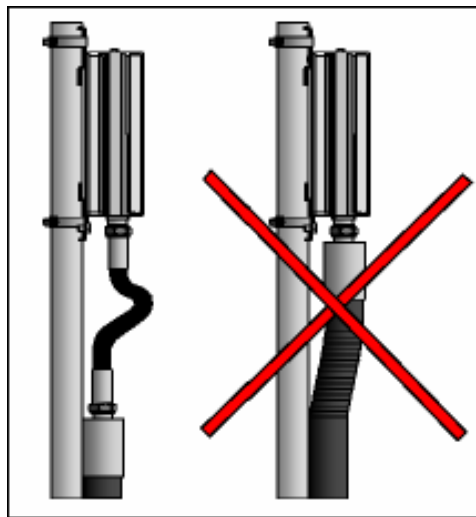

Figure 2-1 Use a jumper cable between feeder and TMA.
**NOTE** For simplicity, only a few TMA types are shown here, but the mounting principles can easily be applied to any of the other TMAs. If the feeder is of large diameter, its thermal dimensional changes will cause considerable forces, which may damage the TMA. In such a case, the use of a short jumper between the main feeder and the TMA, as shown in Figure 2-1, is required.